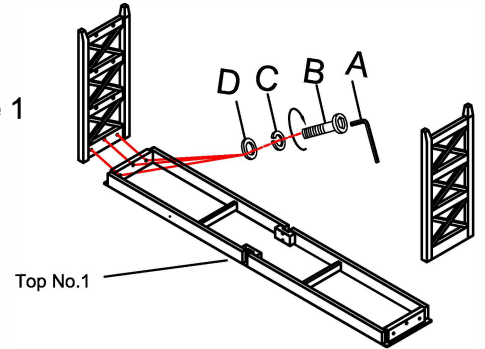

Figure 2
3. Attach Shelf No.2 using Bolt (E), Lock Washer (C), Flat Washer (D) and tighten with Allen Wrench(A). As shown in Figure 2.